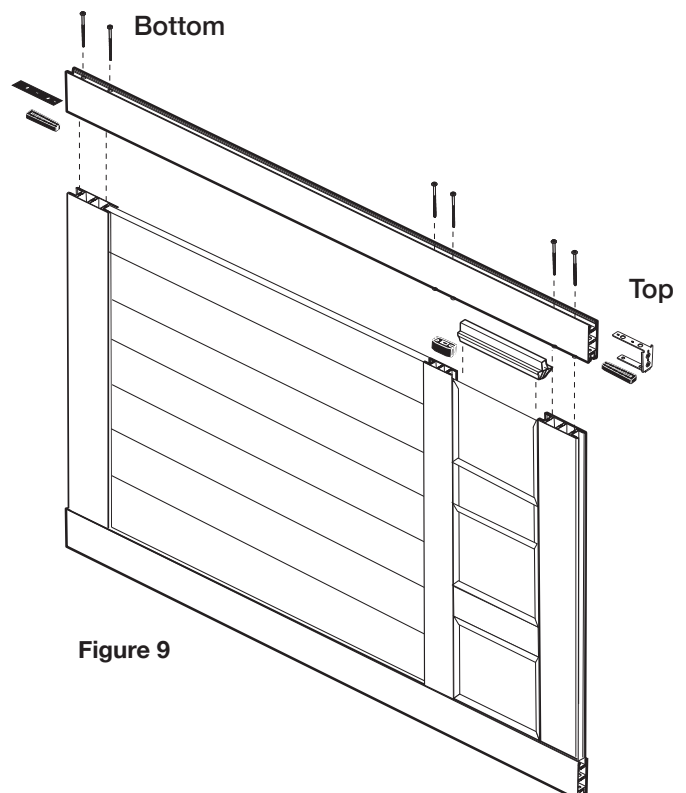

Figure 9
Place 2 of the 4" screws (Z) into the 2 holes in the outside of the Stile channel at the bottom of the window section. Make sure they are fully inserted. Slide a small reinforcement clip (F) into the channel and over the screw shafts. See Figure 9.
Line up the 4 screws inserted through the Stile with the extrusion holes in the top rail (C1) and the bottom transom rail (E1) and tighten all 4 screws until flush and secure. Go back and tighten the screws in the bottom door rail (C2). See Figure 9.